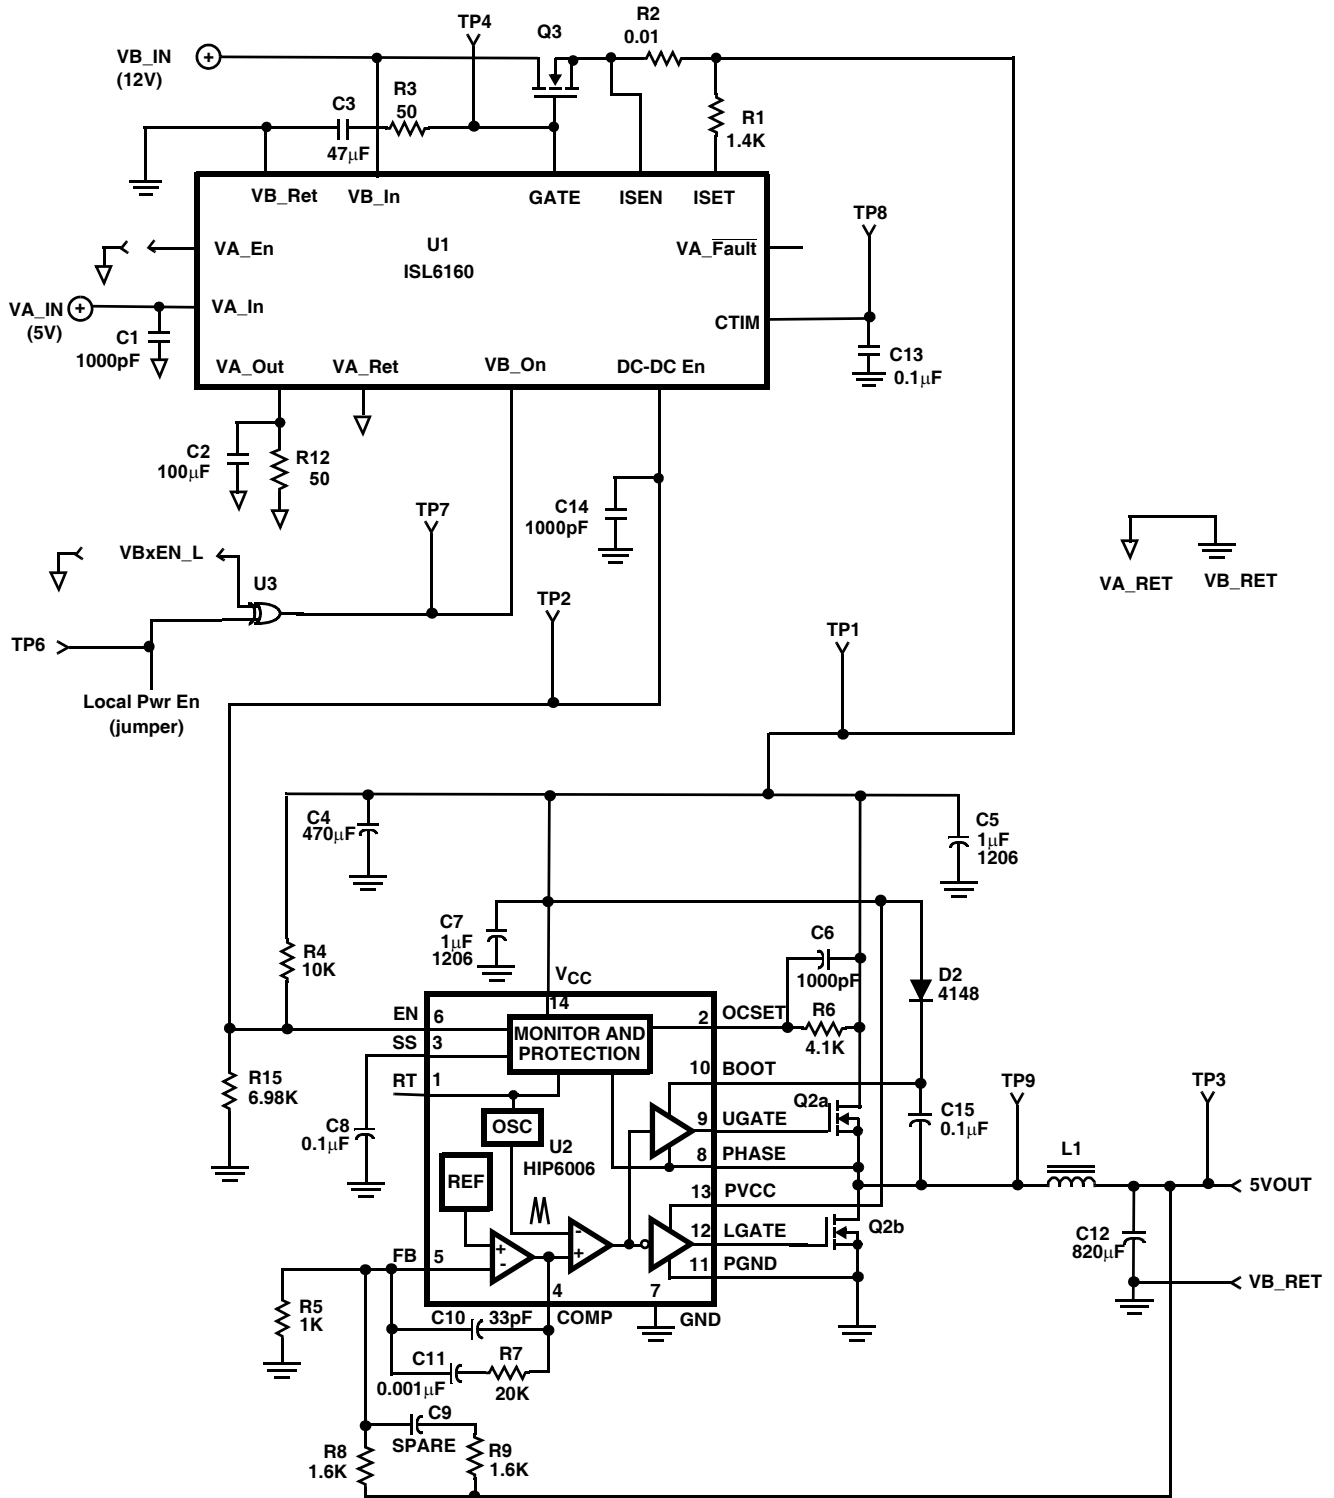

FIGURE 11. ISL6160EVAL2 SCHEMATIC
Intersil also provides the ISL6160EVAL2 concept evaluation platform. The ISL6160EVAL2 is a complete InfiniBand Class I (non isolated) power topology evaluation platform which highlights the operation of the ISL6160 and the HIP6006 single output PWM controller. See Figure 1 for a simplified block diagram of the ISL6160EVAL2 platform. This evaluation platform allows the InfiniBand Module (IM) power supply designer to evaluate the concept of this design and apply this concept to a specific IM power requirement. The evaluation platform is configured for 5V Vout and 3.5A max lout capability where it exhibits an efficiency of 85%, all in a small 1.6 sq" area. See Figure 11 for a complete ISL6160EVAL2 schematic.
The HIP6006 has a loss less overcurrent (OC) protection feature. This is accomplished via the current-sense function of the HIP600x family. The HIP6006 senses converter load current by monitoring the drop across the upper MOSFET (Q2a in the Figure 11 schematic) enhancing the converter's efficiency and reducing cost by eliminating a current sensing resistor.